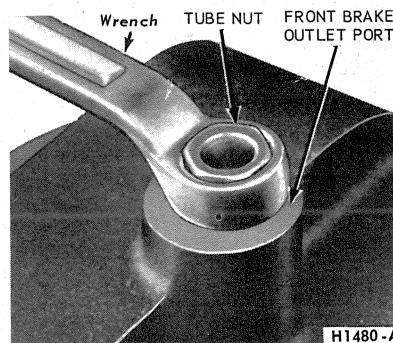

FIG. 20—Installing Tube Seat and Check Valve
2. Position the check valve springs, new check valves and tube seats (flatside toward the check valve) in the front (primary system) and rear (secondary system) brake outlet bores. With the use of tube nuts and a wrench, press the tube seats inward until they bottom (Fig. 20). Remove the tube nuts.
(Fig. 20). Remove the tube nuts.